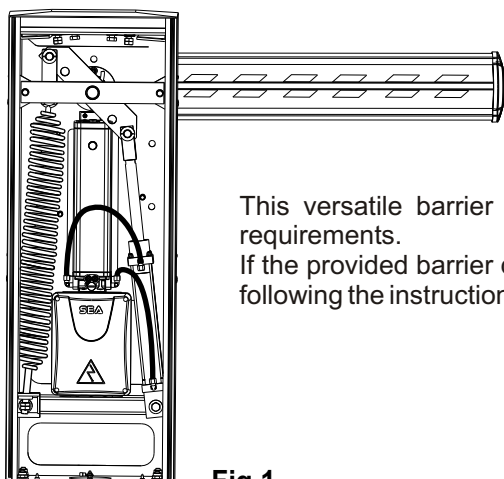

Fig.1
N.B.: The operator comes as shown in Fig.1 (Closing on the right hand side).
Barrier with right hand closing (Fig. 1)